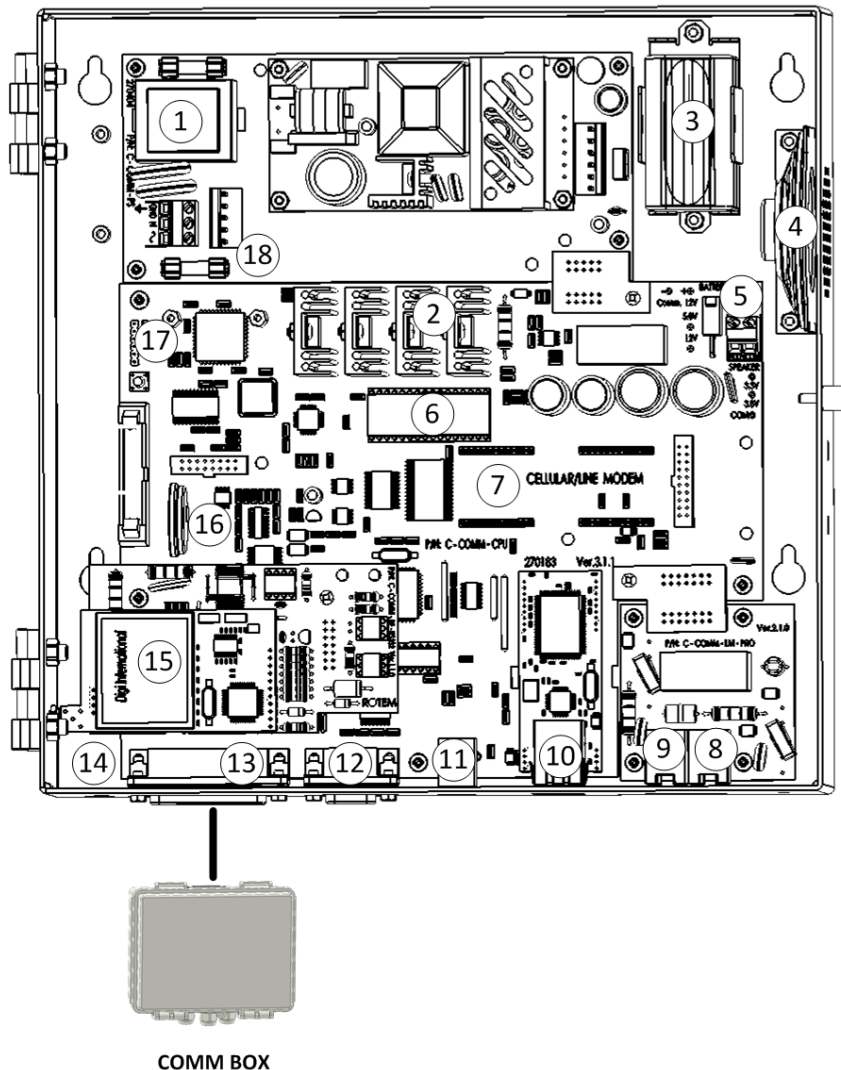

Figure 1: External Connection Box Connector and Internal Components (Sample) Board
1. Open the Communicator and verify that all required components are physically installed. Figure 1 illustrates sample Communicators and their components.
| Figure 1 key |   |    |                        |
1. Connect the External Connection Box to the Communicator using the 25 pin connector as shown in Figure 1.